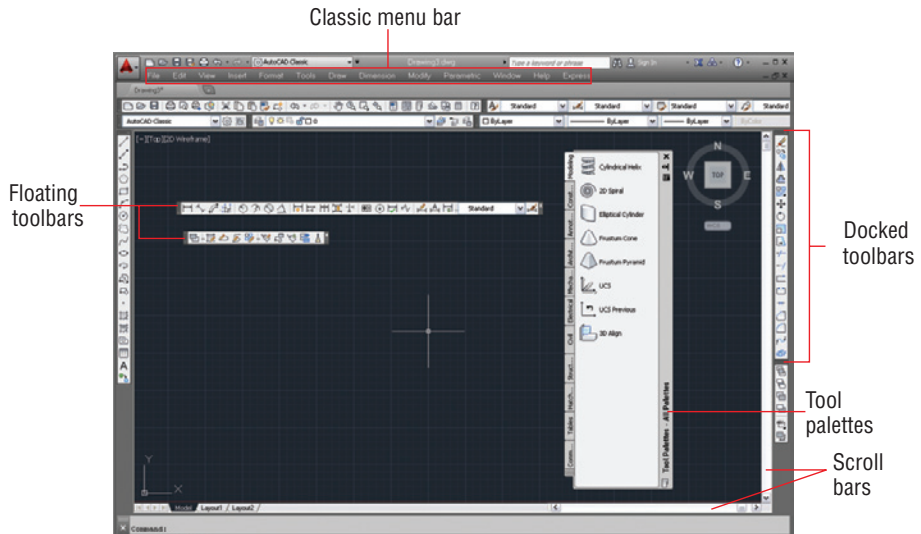

FIGURE 1.7 AutoCAD Classic workspace
1. Select the AutoCAD Classic workspace from the drop-down menu on the Quick Access toolbar. The user interface changes dramatically (see Figure 1.7). The AutoCAD Classic workspace makes AutoCAD look similar to how it did in 2008 and earlier.